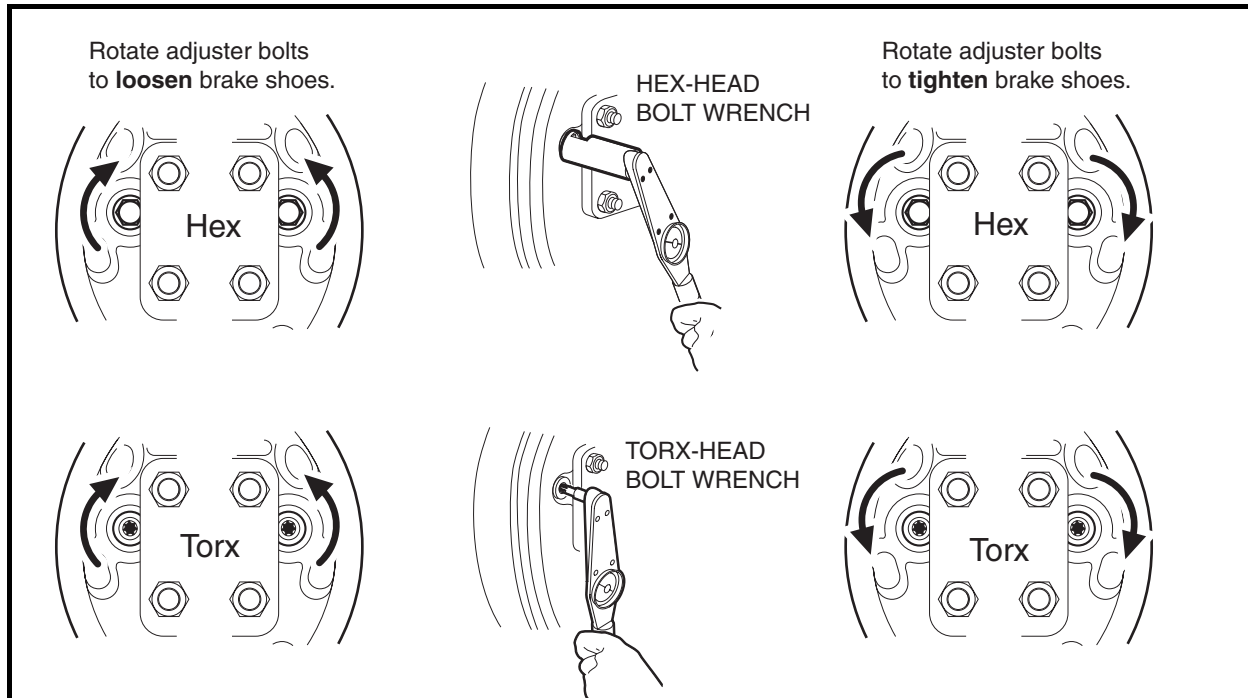

Figure 6-14 Loosen or Tighten Brake Adjusters
- 9.2. Use a torque wrench and a Torx #27 driver, or hydraulic brake adjuster (CCI P/N 102169401), and gently rotate the adjuster bolts to increase the clearance between the brake shoe lining and the brake drum (**Figure 6-14, Page 6-16**). **See following NOTE.**
18. Install the dust cover (1).
19. With the brake drum properly seated and secured, use a torque wrench with a Torx #T-27 driver, or hydraulic brake adjuster (CCI P/N 102169401) and gently adjust the clearance between the brake shoes and brake drum by turning each of the two adjuster bolt heads on the back of the brake cluster plate (**Figure 6-14, Page 6-16**). **See following CAUTION.**
2. Use a torque wrench and a Torx #T-27 driver, or hydraulic brake adjuster (CCI P/N 102169401), and gently rotate the adjuster bolts to increase the clearance between the brake shoe lining and the brake drum (**Figure 6-14, Page 6-16**). See following **NOTE**.
4. With the brake drum properly seated and secured, gently adjust the clearance between the brake shoe lining and brake drum (**Figure 6-14, Page 6-16**). See following **CAUTION**.